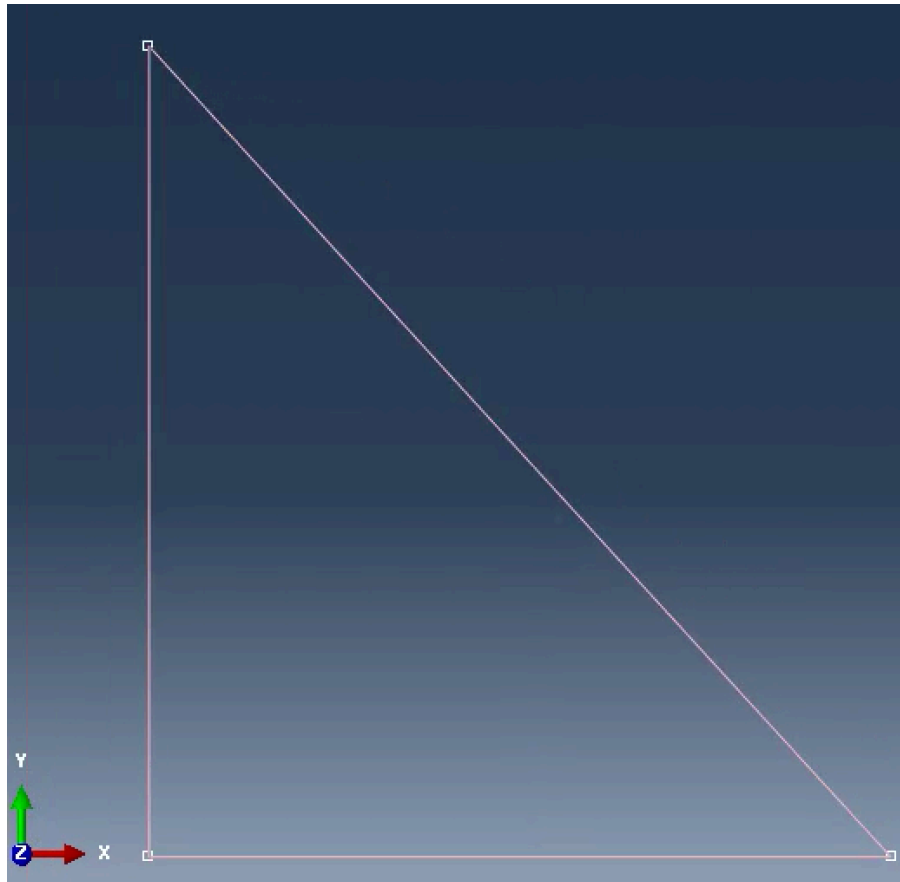

Figure 31 Displaying seeds
- A more elegant way is using **Seed Edges**. You can click on the button, then select all truss members, and click on **Done** button. In the appeared dialog box, in the Method section, toggle on **By number**. Then, in the Sizing Controls, enter 1 as **Number of elements**. (Please note that you may prefer to run an analysis with having more elements. In that case, you can define more seeds to have more elements). The defined seeds will be displayed by small white squares (Figure 31).